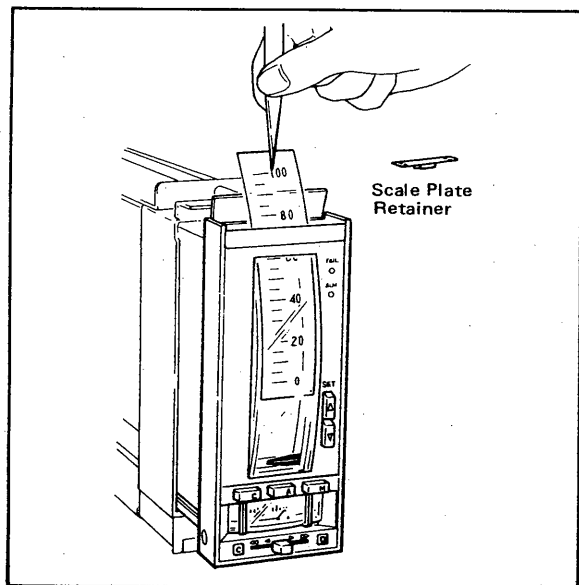

Figure 6-10. Replacing the Scale Plate.
- (1) Pull the internal assembly out slightly from the housing.
- (2) Using a pair of tweezers, remove the scale plate retainer and the scale plate in this order. (See Figure 6-10.)